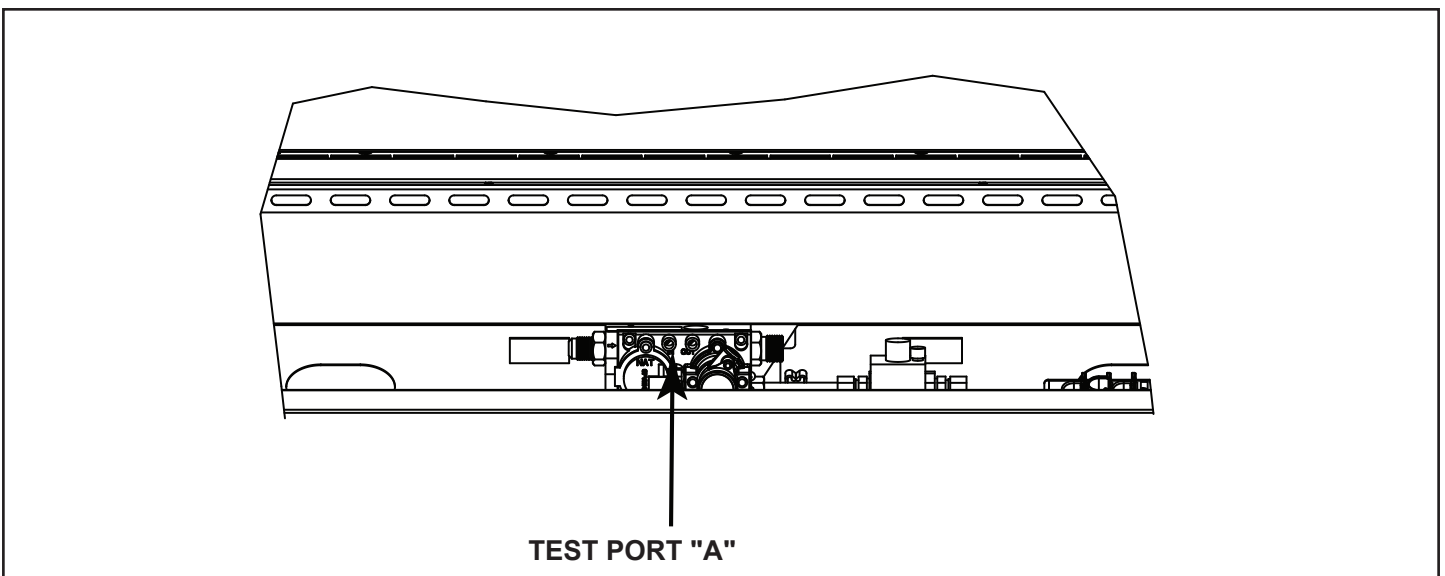

Figure 5.1.- Valve Pressure Tap
- Valve pressure taps are accessible by removing the control door. See Figures 5.1 & 5.2.